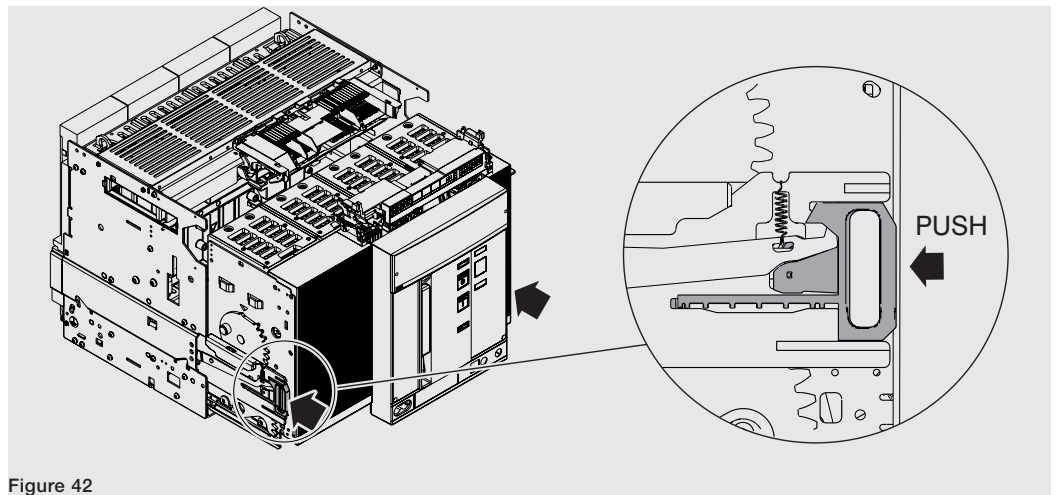

Figure 42
7. Grip the guide levers of the fixed part and push them until the moving part stops. See Figure 42.